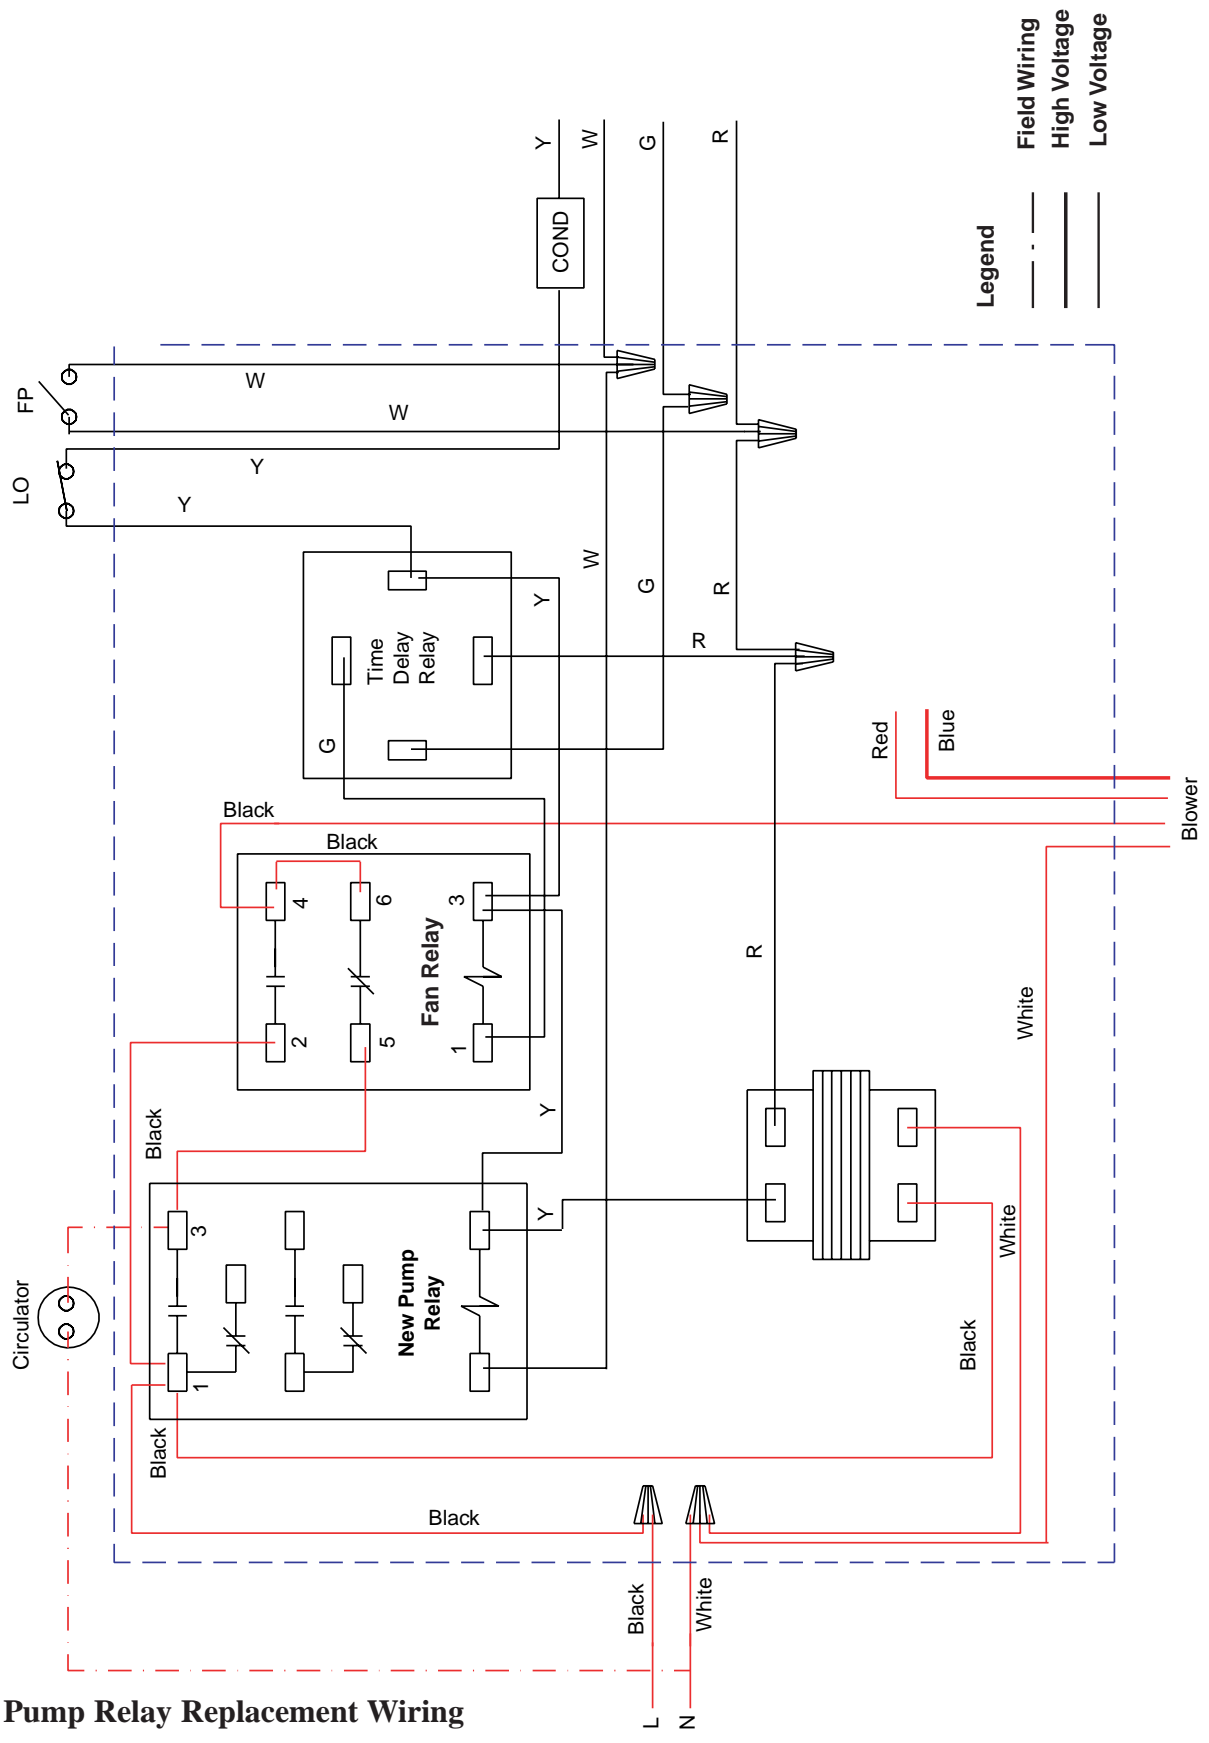
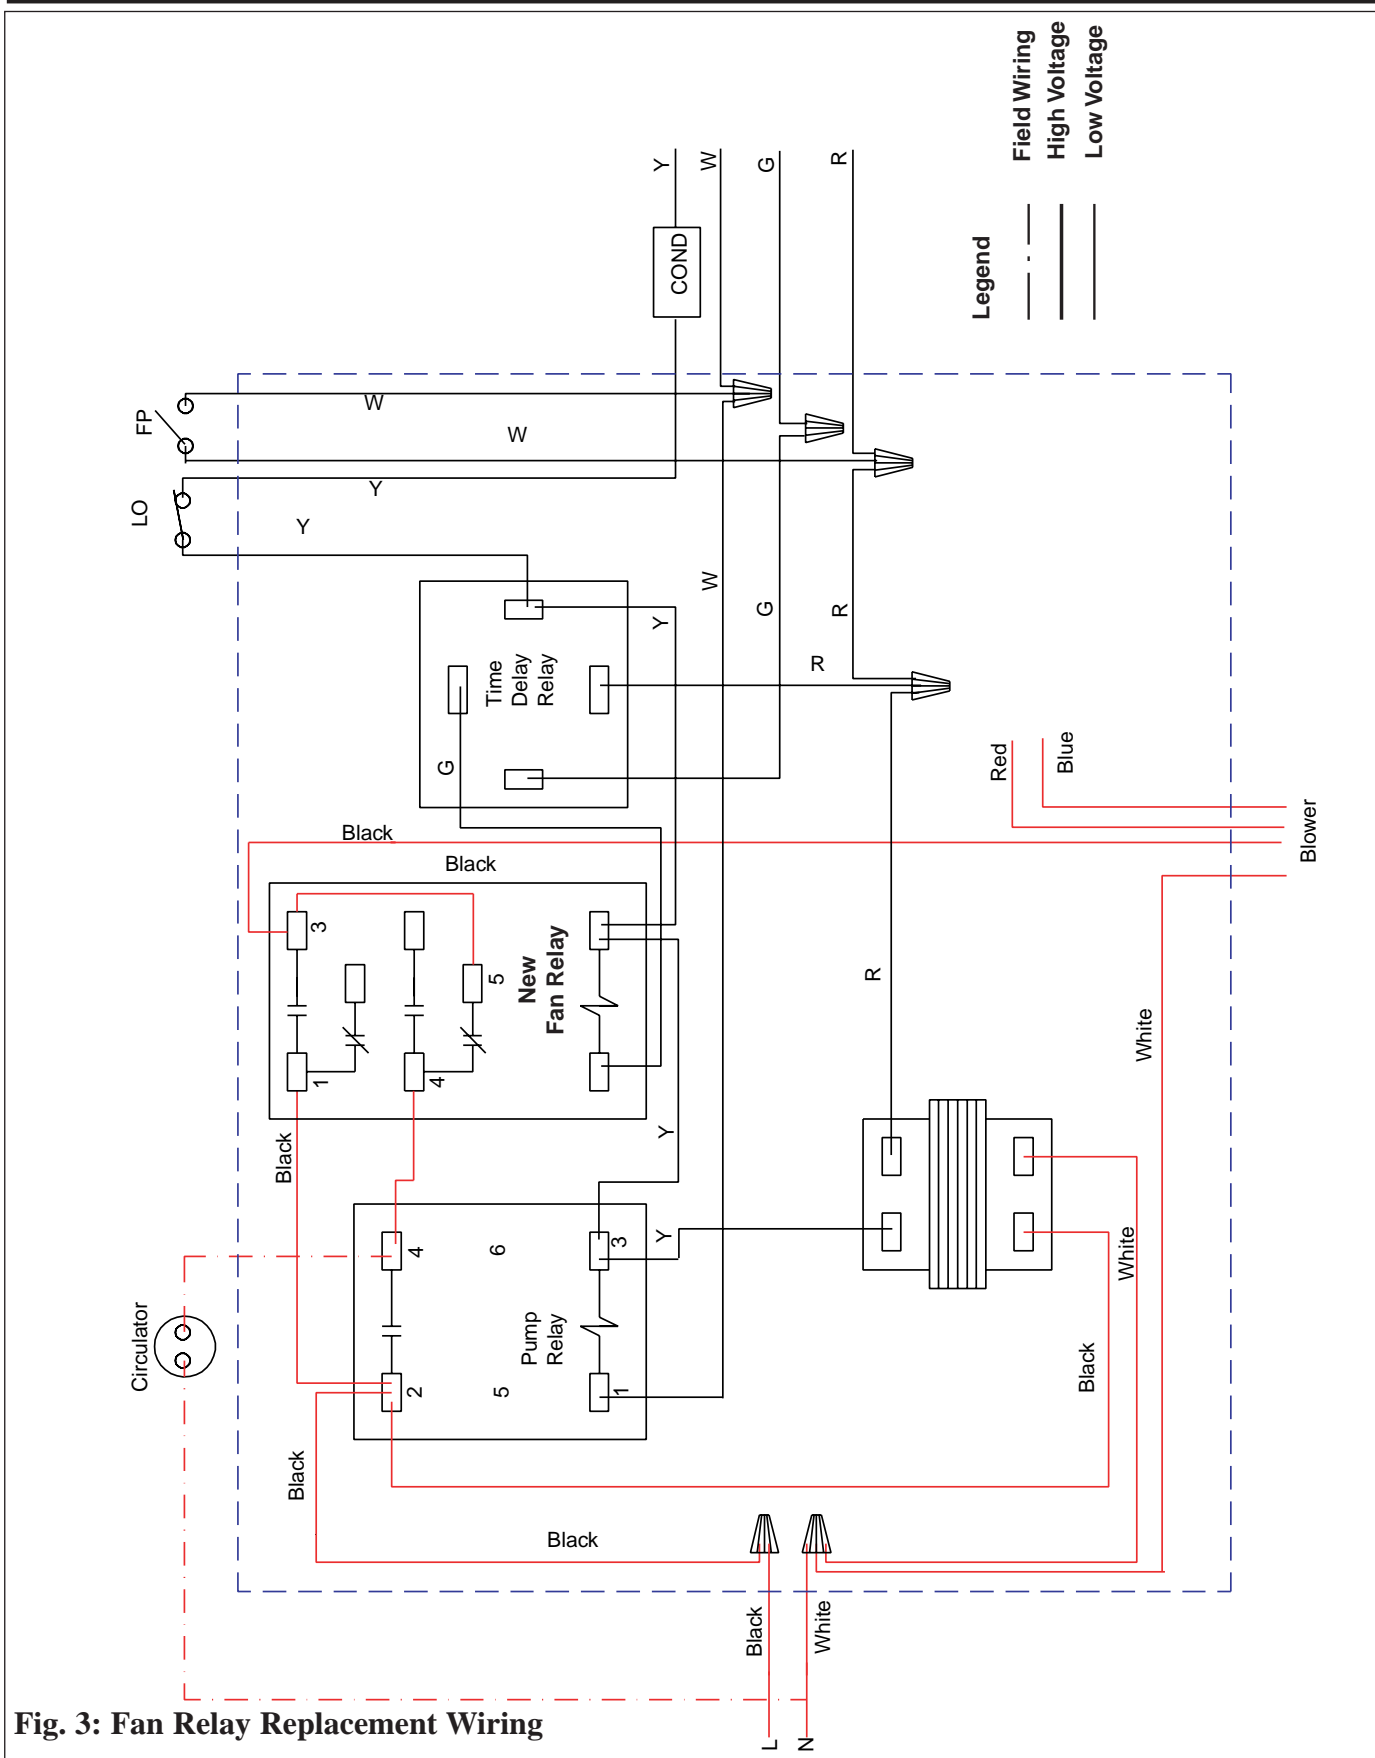

Fig. 2: Pump Relay Replacement Wiring
Fig. 3: Fan Relay Replacement Wiring
2. Reattached the line voltage and control wires to the Relay. See Fig. 2 for Pump Relay or Fig. 3 for Fan Relay Replacement Wiring.